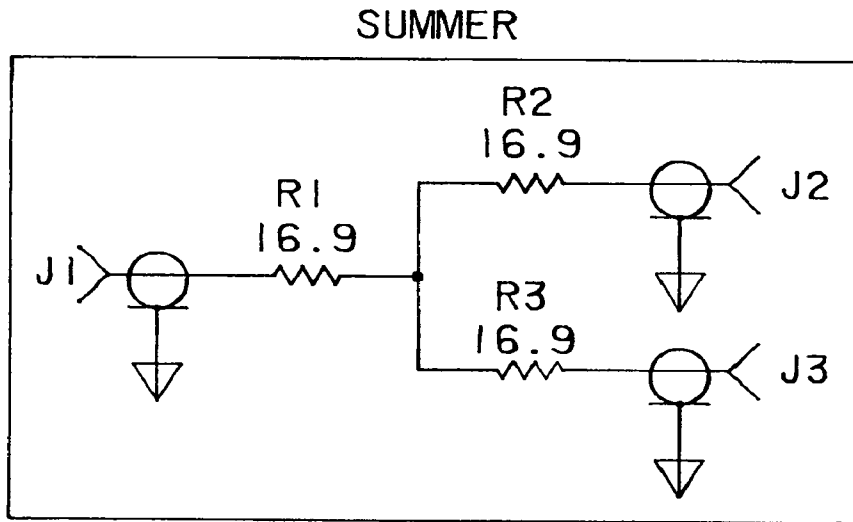

Figure 4-22. Frequency Summer.
- Frequency Summer(See Figure 4-22)